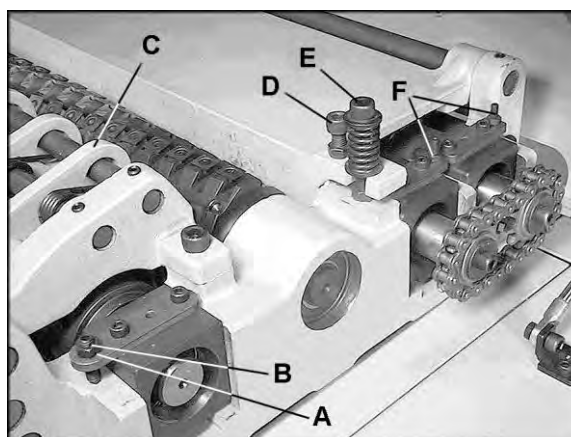
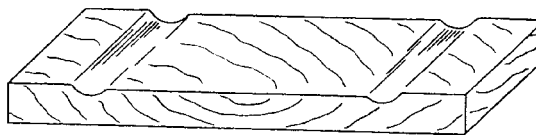

Figure 11
Figure 16
5. If it is not $1/16"$, correct by loosening the hex nut (A, Figure 11) and turning the adjustment screw (B, Figure 11) with a hex wrench.
6. Move the gauge to the extreme opposite end of the infeed roller and check. Make necessary adjustments. Tighten hex nuts (A, Figure 11) when finished.
The chipbreaker (C, Figure 11) is a sectionalized type made of spring-loaded sections mounted on a bar, which complements the sectional infeed roller. The functions of the chipbreaker are to break chips into small pieces, help avoid splintering of the wood, help avoid board bounce on thinner boards, to direct the flow of chips out of the machine, and to permit multiple board surfacing.
Use a gauge to set the full length of the pressure bar to be .000-.001” (.02mm) below the arc of the cutterhead. Figure 11 shows the height adjustment screw (D) and the spring tension adjustment screw (E) for the pressure bar. This initial setup is a starting point and final adjustment may have to be made during a test cut.
Adjust as necessary using the screws (F, Figure 11). When finished adjusting, tighten the hex nuts on the screws (F, Figure 11).
If clip marks occur 6" (152mm) in from each end of the board, the pressure bar is too high. See Figure 16. Turn both right and left hand adjusting screws (see Figure 11) the same amount, 1/4 turn clockwise or less, and take another 1/16" (1.59mm) deep cut. Re-examine the board.